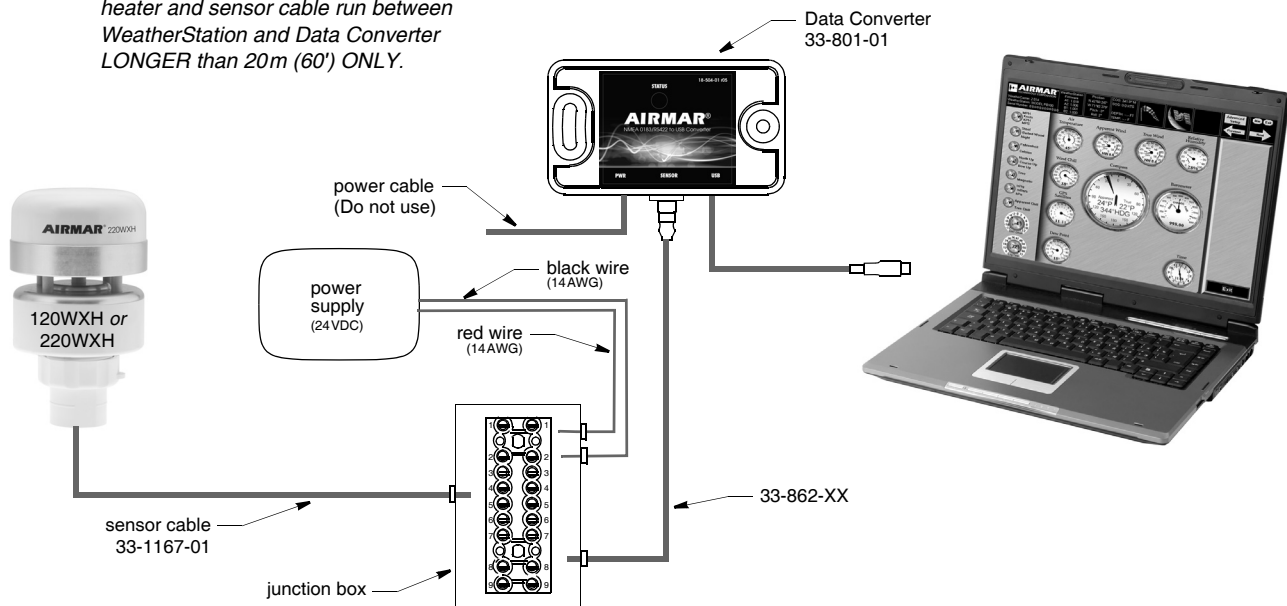

Figure 2. WeatherStation Instrument with heater and sensor cable LONGER than 20m (60') (not to scale)
**WeatherStation Instrument with Heater**—If the distance between the WeatherStation Instrument and the Data Converter is longer than 20m (60'), use Data Converter 33-801-01 and a junction box (Figure 2).
1. Select a convenient, dry, mounting location for the water-resistant junction box. Locate it no more than 9.5m (30') from the WeatherStation Instrument (Figure 2).
1. Data Converter—The power (PWR) cable will NOT be used (Figure 2). Coil the power cable and secure it with cable ties.